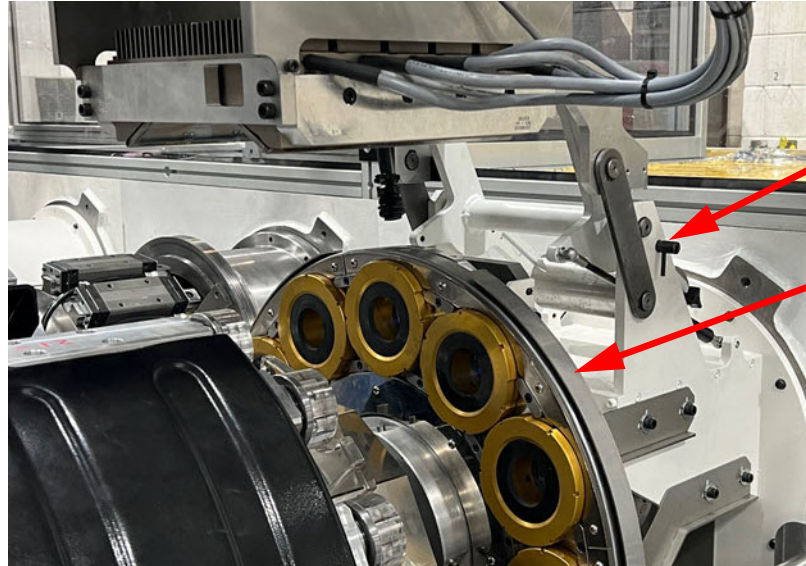

Figure 1-2. Light Test Unit in Upper Maintenance Position
1. Raise the Light Test Unit to it's upper maintenance position. Refer to Figure 1-2.